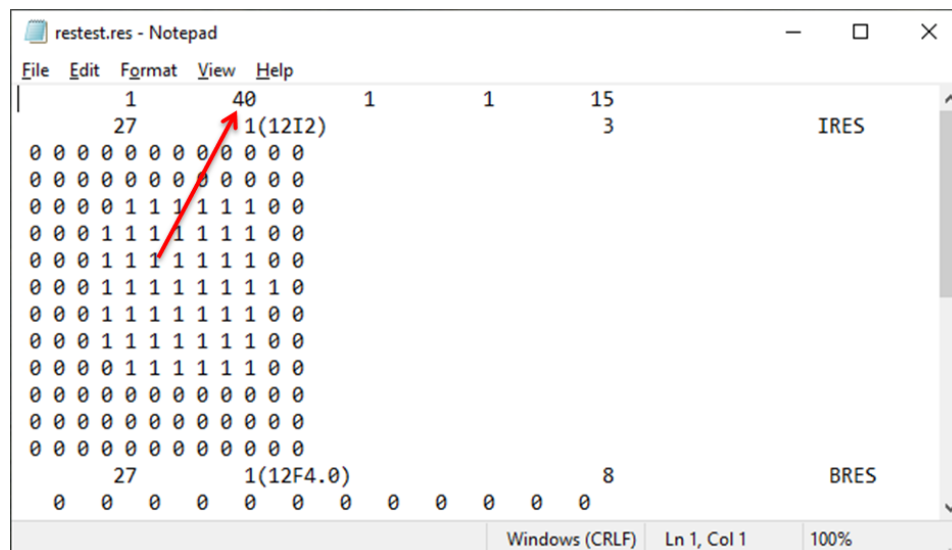

Figure 4 RES Package text file
8. Change the space before the “0” value on the first line to a “4” so the value is now “40” (red arrow in Figure 4).